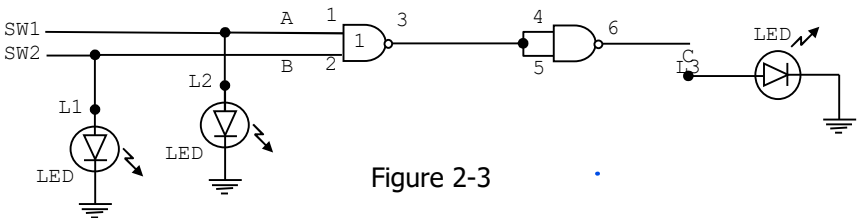

Figure 2-3
13. Wire the circuit shown in figure 2-3. With SW1 (A) and SW2 (B), apply the states shown in Table 5. Record the state for each set of inputs. Observe indicators L1, L2, and L3 to obtain your input and output data. Use positive logic (binary 1 = on, binary 0 = off).
14. Study the circuit in Figure 2-3 and the data in Table 5. What logic function is being performed?